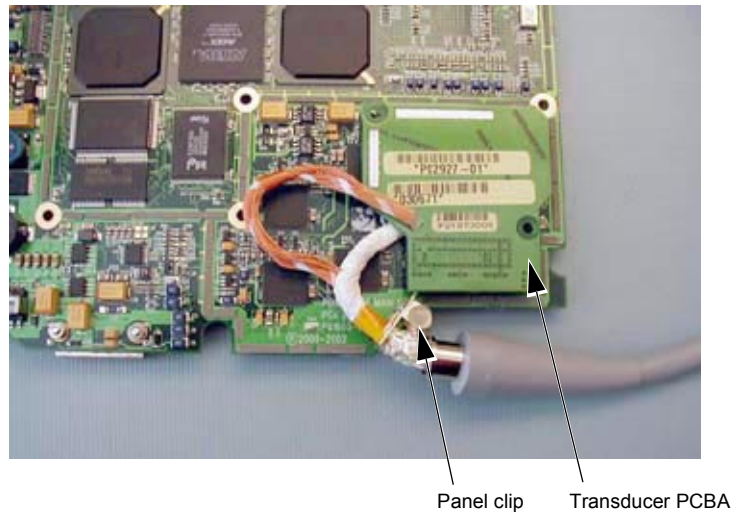

Figure 7.7 Transducer Separated from Main PCBA
- 10 Separate the transducer from the Main PCBA by removing the plastic panel clip and gently pulling the transducer connector PCB from the Main PCBA. (Figure 7.7)
- 1 Attach the transducer to the Main PCBA by attaching the transducer connector PCB to the Main PCB Connector. (Figure 7.7)
- 2 Install the plastic panel clip to hold the cable in place. (Figure 7.7)
- 11 Separate the transducer from the Main PCBA by removing the plastic panel clip and gently pulling the transducer connector PCB from the Main PCBA. (Figure 7.7)
- 2 Attach the transducer to the Main PCBA by attaching the transducer connector PCB to the Main PCB Connector. (Figure 7.7)